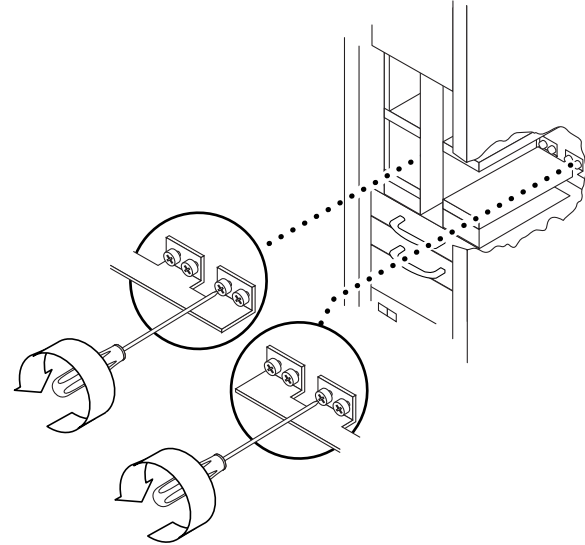

FIGURE 12-4 Loosening the Bus Bar Captive Screws—Sun Fire 6800 System
9. Loosen the upper-right and upper-left bus bar captive screws, by reaching through the access area (FIGURE 12-4).